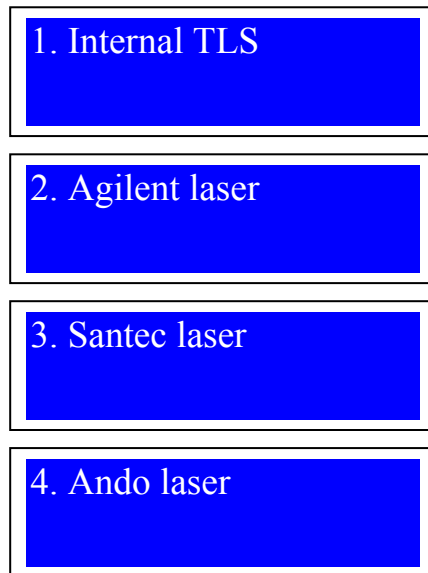

Figure 49 Laser selection screens
- Go to TLS setup interface by pressing the TLS key (Figure 49).